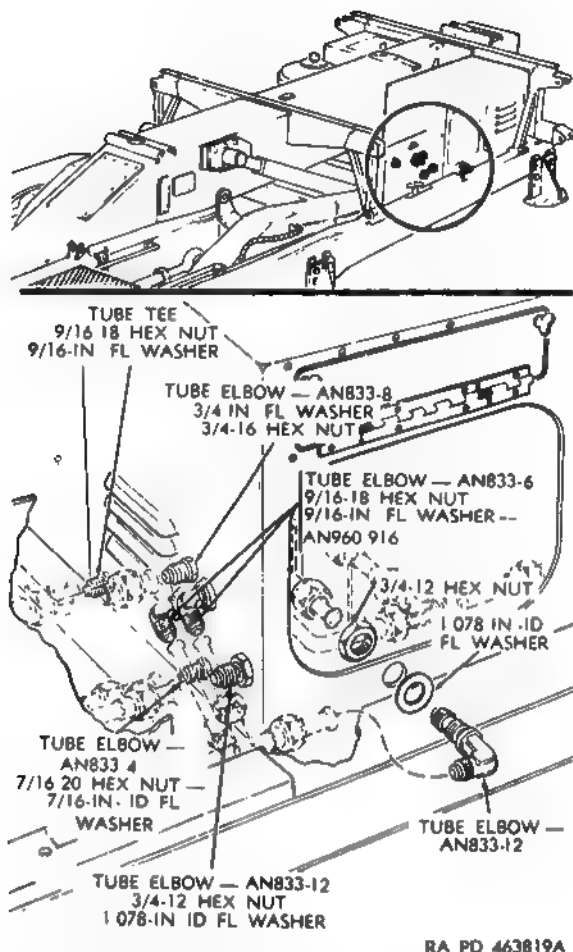
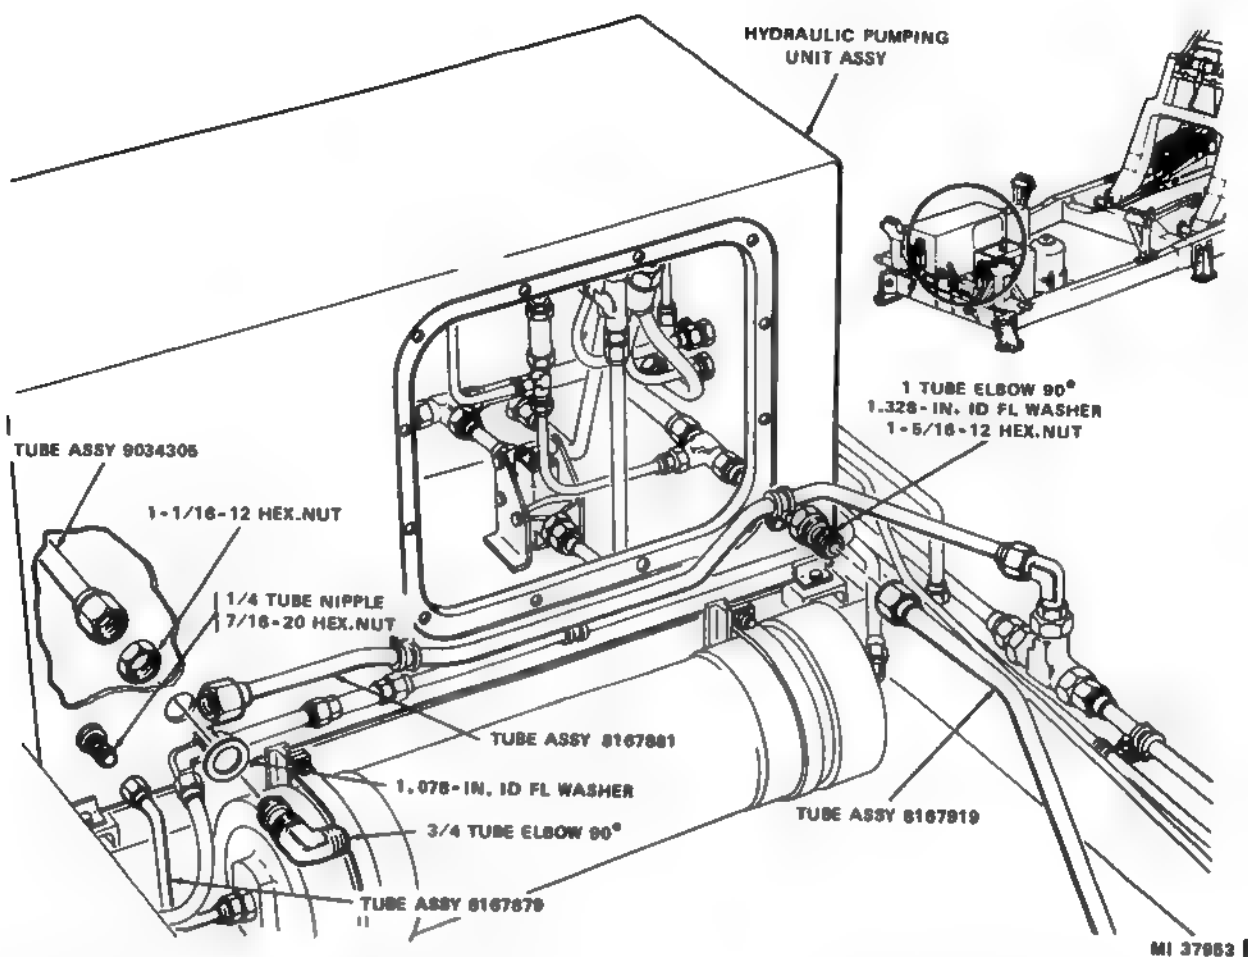

Figure 150. Hydraulic pumping unit assembly external tube fittings—removal and installation.
Figure 151. Hydraulic pumping unit assembly external tube fittings — removal and installation — Continued.
Tube elbow - AN833-12 (on right side of pumping unit, fig. 150)
Tube elbow - AN833-12 (on left side of pumping unit, fig. 151)
Tube elbow - AN833-16 (fig. 151)
Tube elbow - AN833-12 (on rear side of pumping unit, fig. 150)
- (d) Disconnect internal and external tube assemblies from tube fitting to be removed (figs. 150 and 151).
Tube elbow- AN833-12 (figs. 150 and 151)	1000 (6 places)
Tube elbow- AN833-4 (fig. 150)	150 (2 places)
Nipple- AN832-4 (fig. 151)	150 (2 places)
Tube elbow- AN833-6 (two tube elbows, fig. 150)	300 (2 places on each elbow)
Tube elbow- AN833-8 (fig. 150)	500 (2 places)
Tube tee- AN804-6 (fig. 150)	300 (2 places)
Tube elbow- AN833-16 (fig. 151)	1450 (2 places)
*Note.* No air bleed procedure is necessary for the removal and installation of tube elbow - AN833-4 (fig. 150) and nipple - AN832-4 (fig. 151).